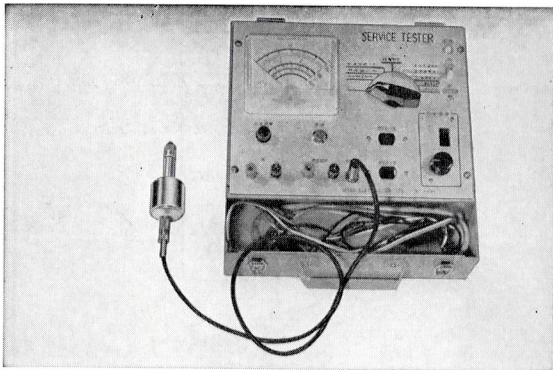

Fig. 5.104 Tachometer preparation
- (2) Connect the tachometer plug to the jack marked "tachometer" on the tester, and read the "6000rpm" side of the meter green scale. (Fig. 5.104 and 5.105)